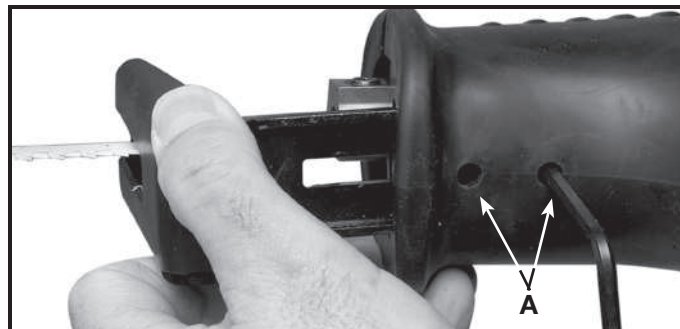

Fig. 12A
1. The **Model 745** pivoting guide shoe is adjusted by loosening the two hex screws (with wrench supplied) located on the bottom of the front gear housing (A) Fig. 12A. Loosen both screws enough to allow the pivoting